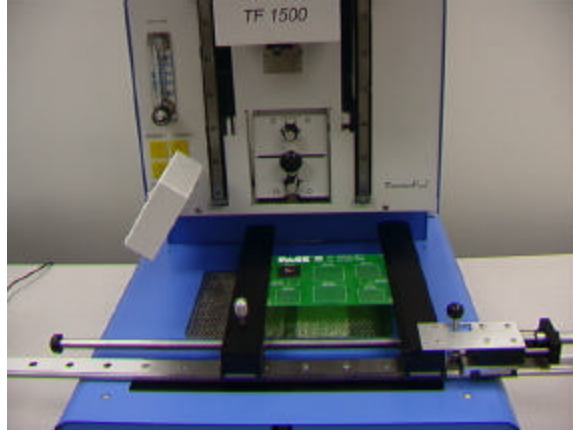

Figure 20
- ii. Position the board so the red laser sighting light is roughly in the center of the component. To move the board forward and back simply move the PCB in the arms. To move the assembly left and right push the release handle away from you and move the assembly. Pull the release handle towards you to secure the assembly. (Figure 20)